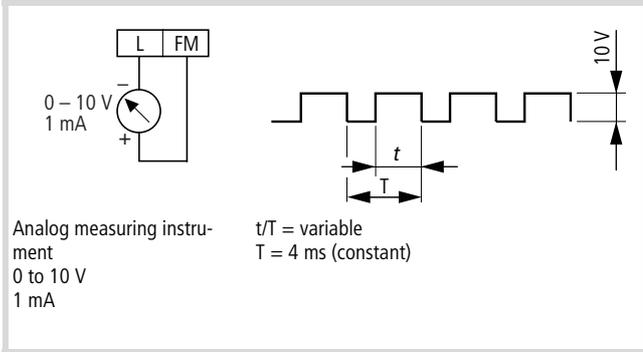
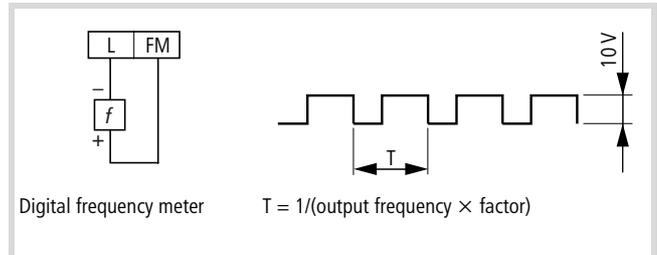

Figure 47: Connection of analog measuring instrument
Figure 49: Digital frequency meter connection
The FM terminal provides the variables listed in the table below in the form of a pulse-width modulated (PWM) signal (→ Fig. 47). An exception is the output frequency to which the value "03" is assigned which is output as a frequency modulated (FM) signal (→ Fig. 49).